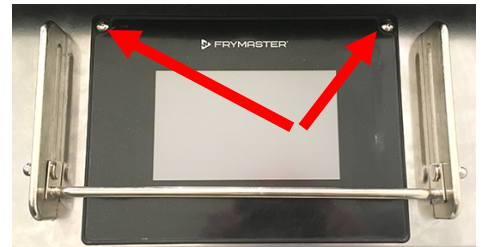

Figure 21
31. Remove the two Phillips head screws from the upper left and right corners of the controller above the JIB (see Figure 21).